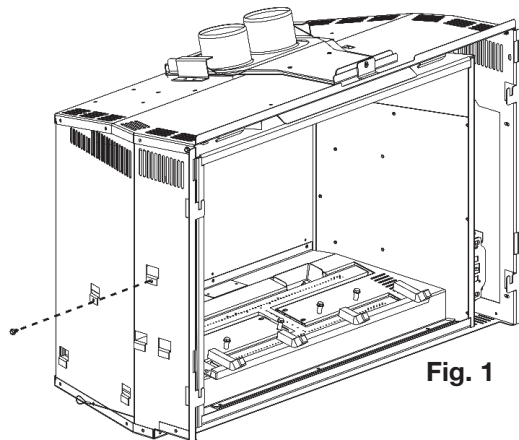

Fig. 1
2. Remove the 1 screw holding the bracket in place (**Fig. 1**). Lift the bracket up and out of the slots, lifting it through the opening between the firebox and the appliance's outer shell (**Fig. 2**).
5. Resecure the 1 screw to hold the bracket and receiver in place (**Fig. 1**).